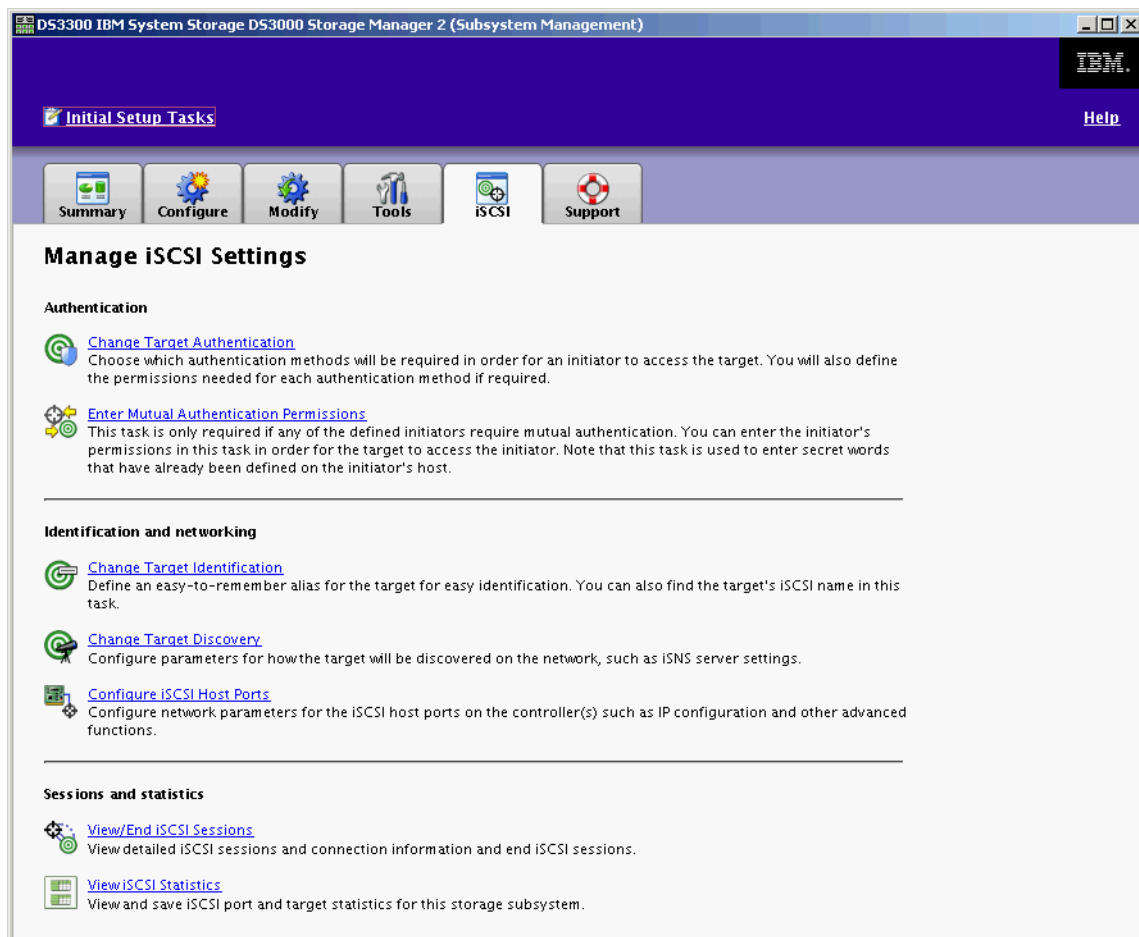

Figure 13-1 DS3000 Storage Manager - iSCSI
Figure 13-1 shows the iSCSI tab in Storage Manager.
1. On the iSCSI tab (Figure 13-1 on page 284), click **Change Target Authentication**.
1. On the iSCSI tab (see Figure 13-1 on page 284), click **Enter Mutual Authentication Permissions**.